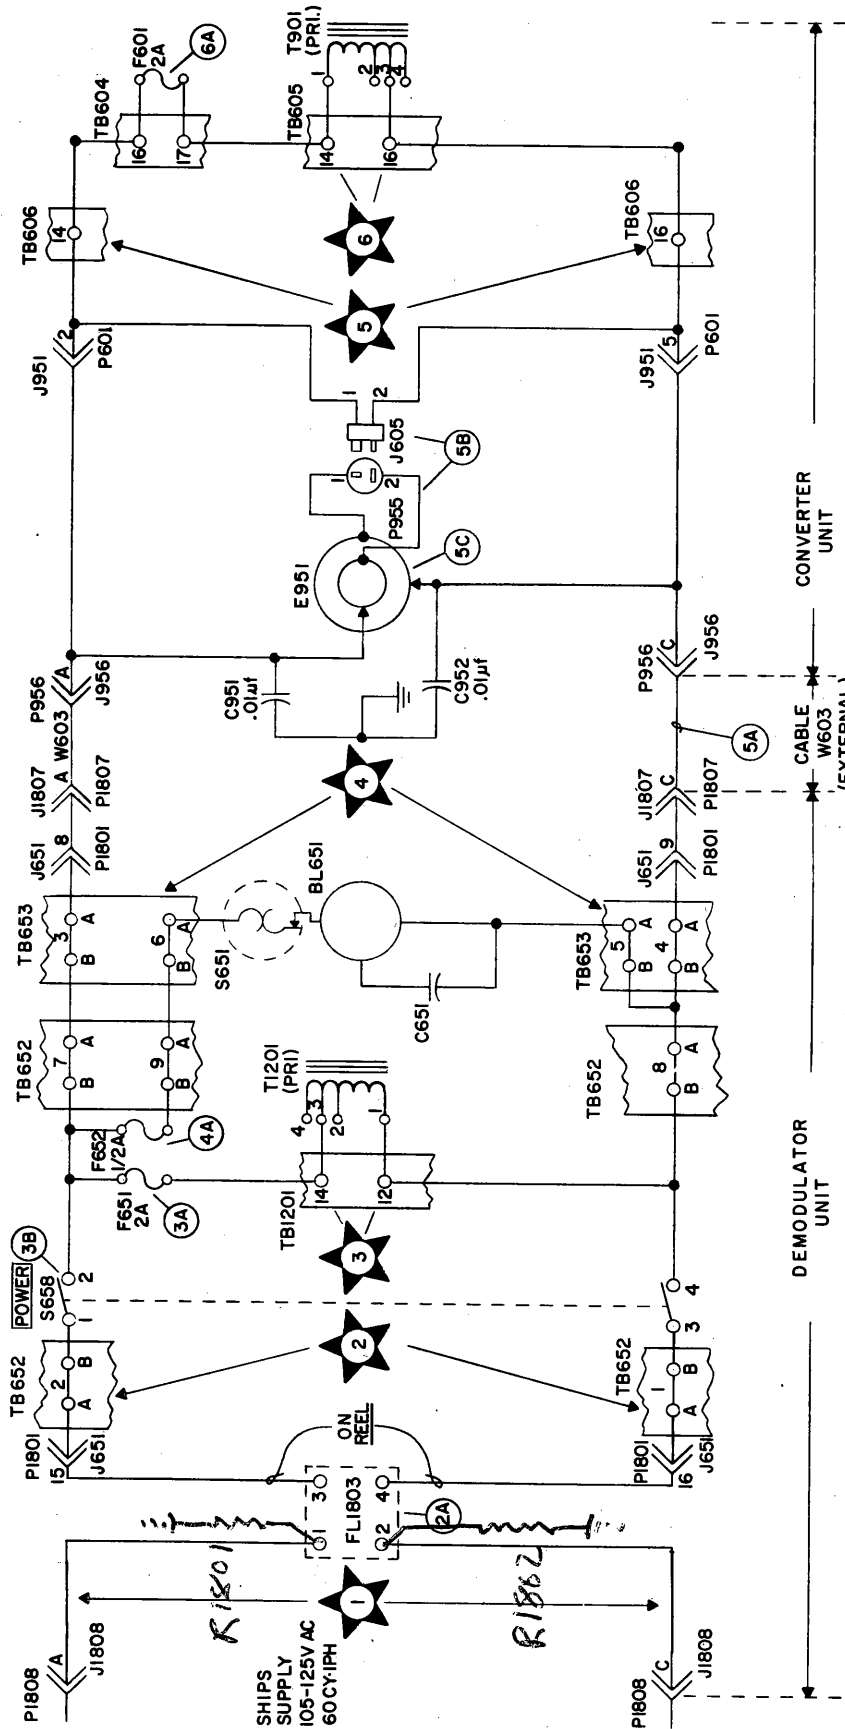

Figure 5-1. Radio Receiving Sets AN/WRR-2A & AN/FRR-59A Power-Distribution Diagram
*a. GENERAL.*— Figure 5-1 is a power-distribution diagram of the receiver. When tracing the power circuits, make certain that the main power is being supplied.